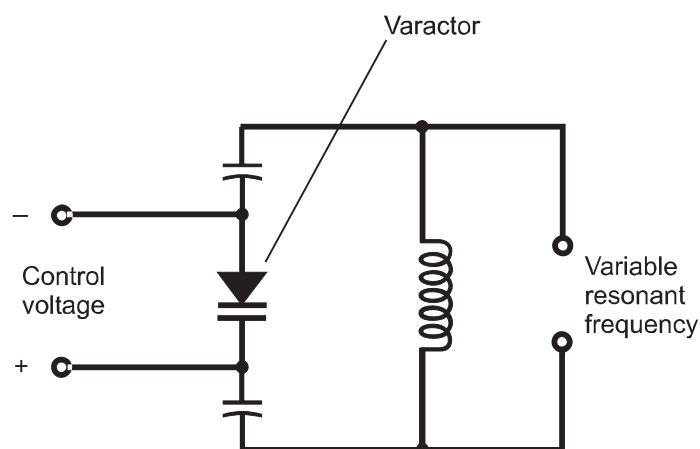

Fig. 5-13. A variable inductance-capacitance (LC) tuned circuit using a varactor.
The varactor diode is used in a *voltage-controlled oscillator (VCO)*. A parallel voltage-tuned inductor/capacitor (LC) circuit using a varactor is shown in Fig. 5-13. As the voltage across the diode varies, so does its capacitance; this affects the resonant frequency of the LC circuit, and therefore the frequency at which the oscillator produces a signal. The fixed capacitors, whose values are large compared with that of the varactor, prevent the coil from short-circuiting the control voltage across the varactor.